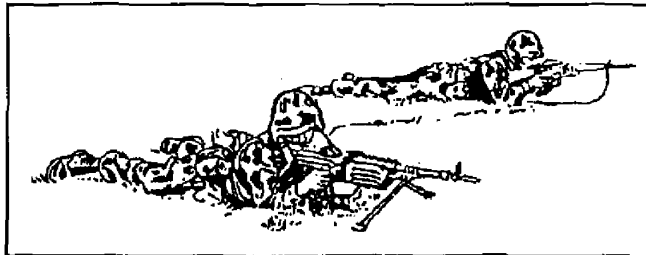

Figure 071-010-0006-1. Bipod-supported prone position
- a. Bipod-supported prone. The bipod-supported prone position (figure 071-010-0006-1) and the bipod-supported fighting position (figure 071-010-0006-2) are the best positions for delivering effective fire on targets. Assume these positions when possible.